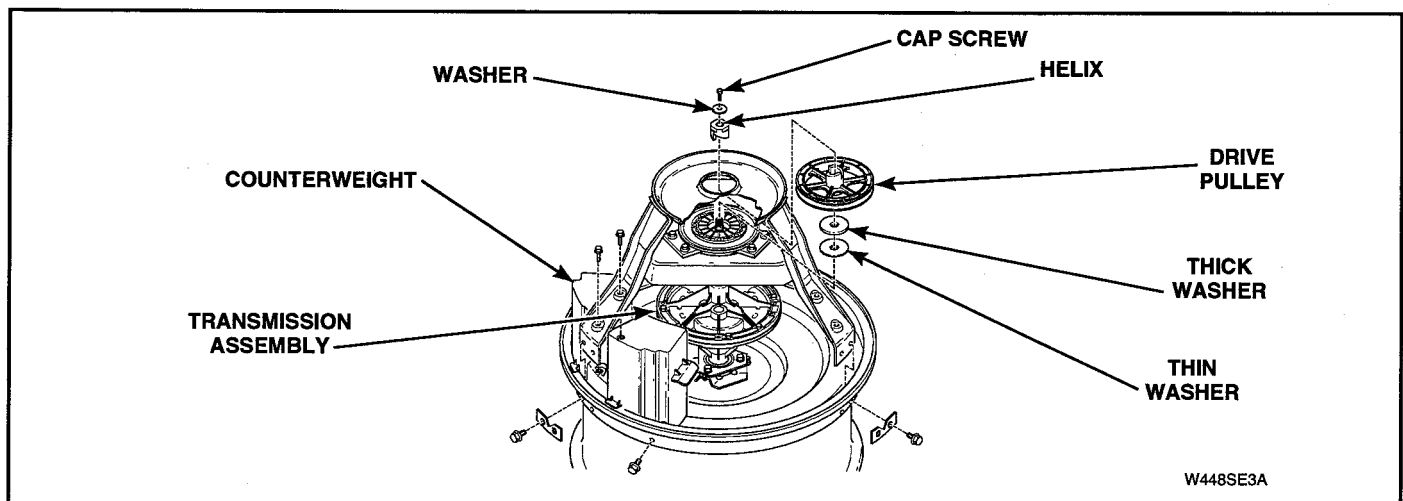
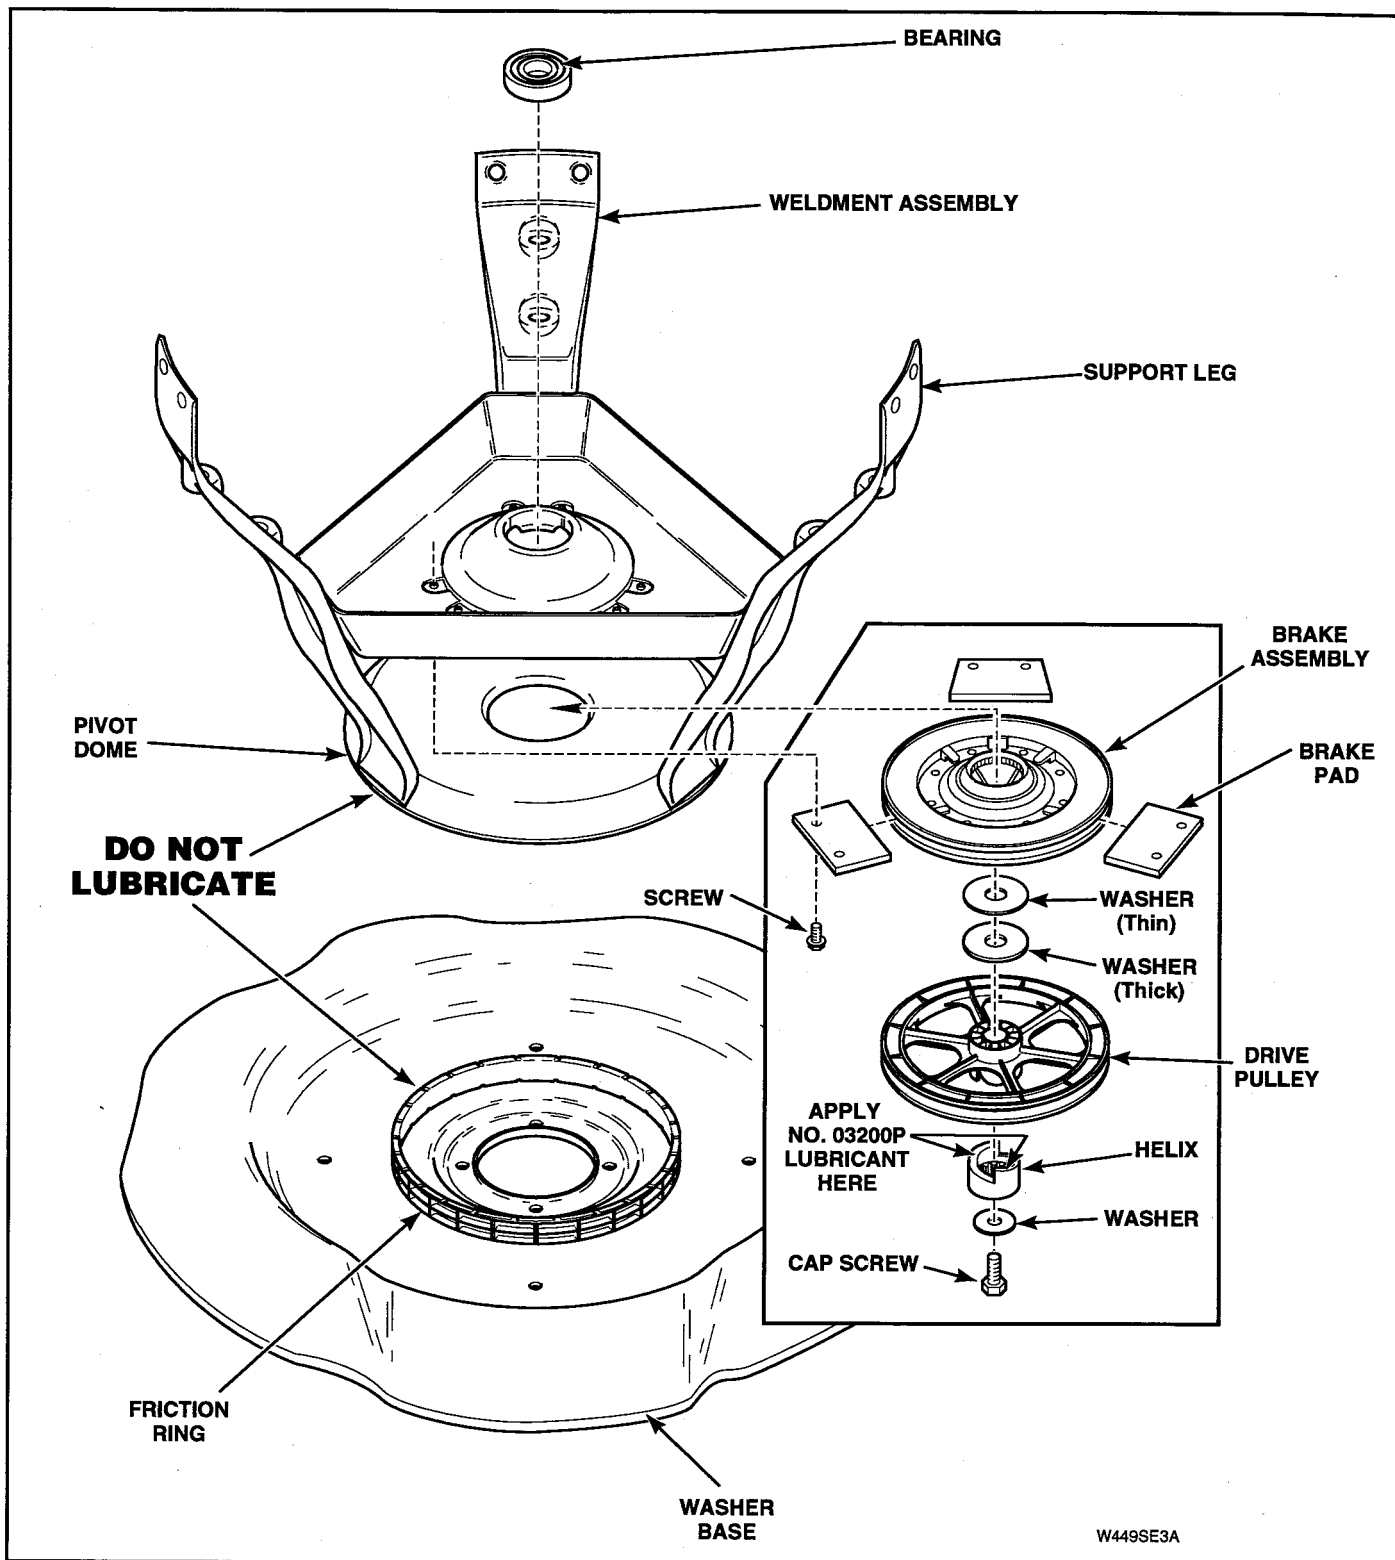

Figure 5-38
Figure 5-39
- m. Remove screw, washer and helix holding drive pulley to input shaft and transmission assembly. See Figure 5-38.
**NOTE:** When reinstalling pulley, place a small amount of No. 03200P Lubricant on top side of the drive pulley that will be contacting large flat washers. See Figure 5-38 for assembly sequence. Lubricate helix ramps and bore with a small amount of No. 03200P Lubricant. See Figure 5-39.
- o. Remove screws holding three brake pads and brake assembly to weldment assembly. See Figure 5-39. Then remove brake assembly and pads off bottom of weldment assembly.
**NOTE:** Refer to Figure 5-39 for assembly sequence.
- Remove screw, washer and helix holding drive pulley to input shaft and transmission assembly. See Figure 5-38.